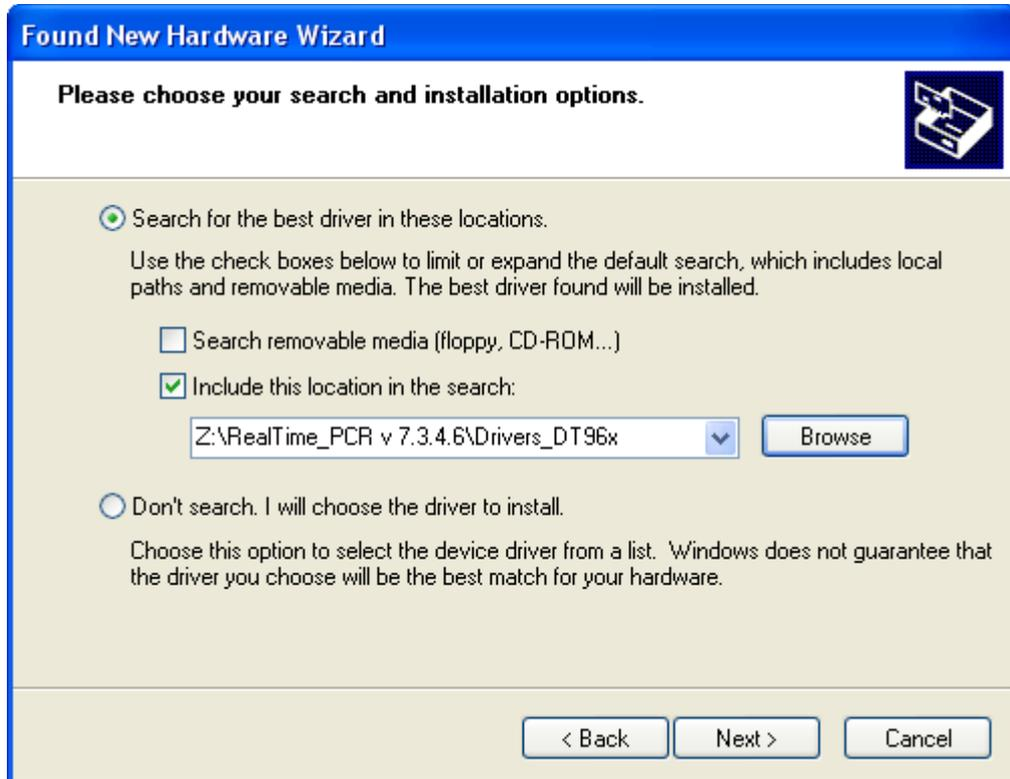

Fig. 7. Searching Drivers_DT96x folder on the USB flash drive
- Select a path to the driver folder by ticking **Add this location to the search** and click  (Fig.7).